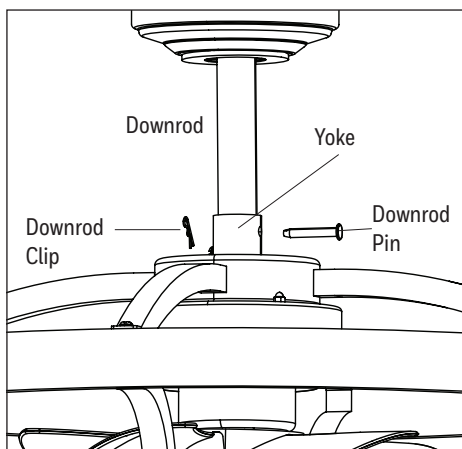

Figure 3.2
2. Slide the downrod into the yoke of the motor assembly, align the holes, then re-install the downrod pin and downrod clip (Figure 3.2).